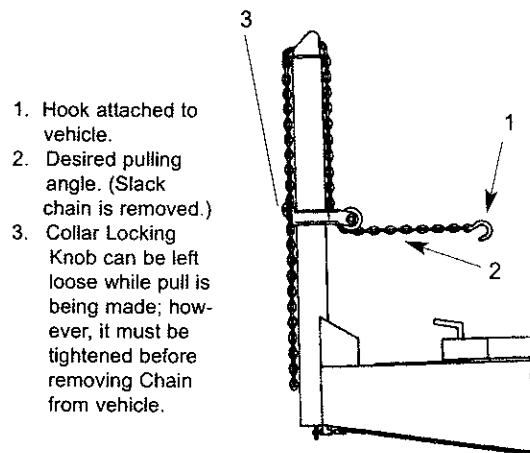

Figure 12
- Let tower chain hang free momentarily to remove twist. Then, without twisting chain, attach hook to vehicle. Pull on tail end of chain to remove slack and then lower collar. (See Figure 12.)